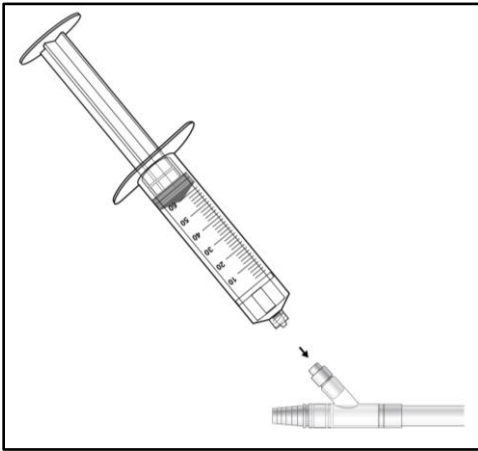

Figure 3
11. While securely holding the Seal Valve and avoiding unintentional proximal or distal movement of the Cervical Seal away from the external cervical os, attach a sterile luer tapered syringe to fill the Cervical Seal with 60 mL of sterile fluid. If needed, add up to another 60 mL of sterile fluid to achieve coverage of the external cervical os and create a seal for vacuum (**See Figure 3**).